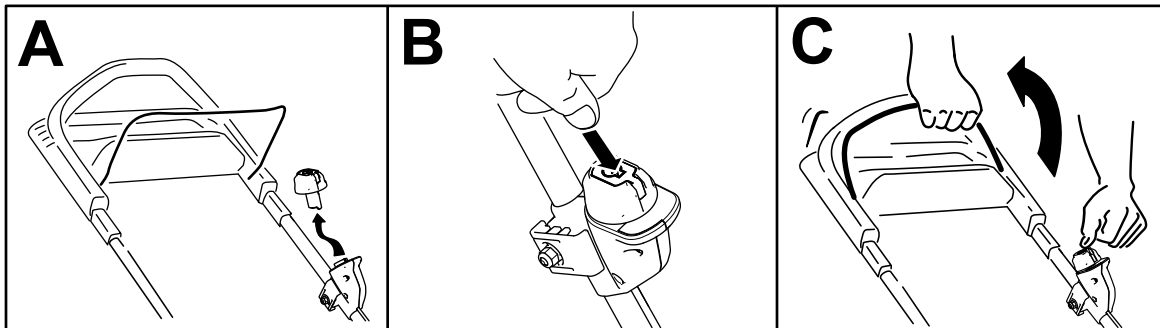

Figure 10
2. Insert the electric-start button into the electric starter (A of Figure 10).
3. Press the electric-start button and keep it pressed (B of Figure 10).
4. Squeeze the blade-control bar and hold it to the handle until the motor starts (C of Figure 10).